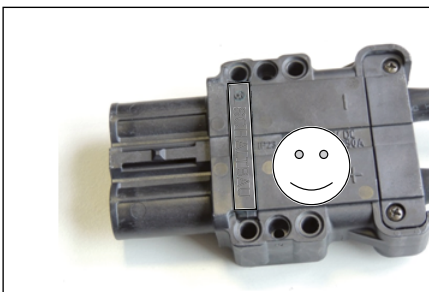
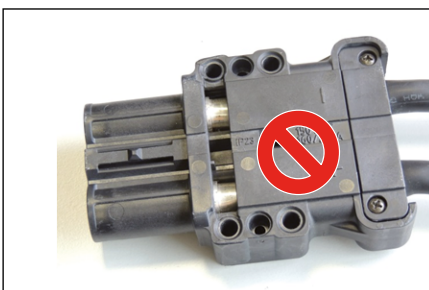

Fig. 17: Slider existent in the plug connection. O.k.!
Fig. 18: Slider not existent in the plug connection.
- ▶ Is the slider existent in the device and charging connectors (refer to **Fig. 17** and **Fig. 18**).